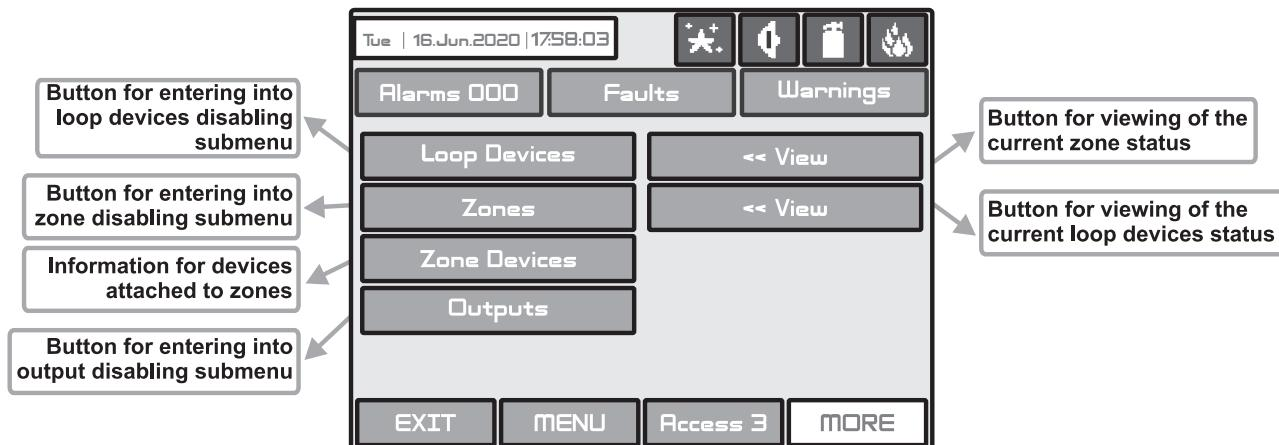
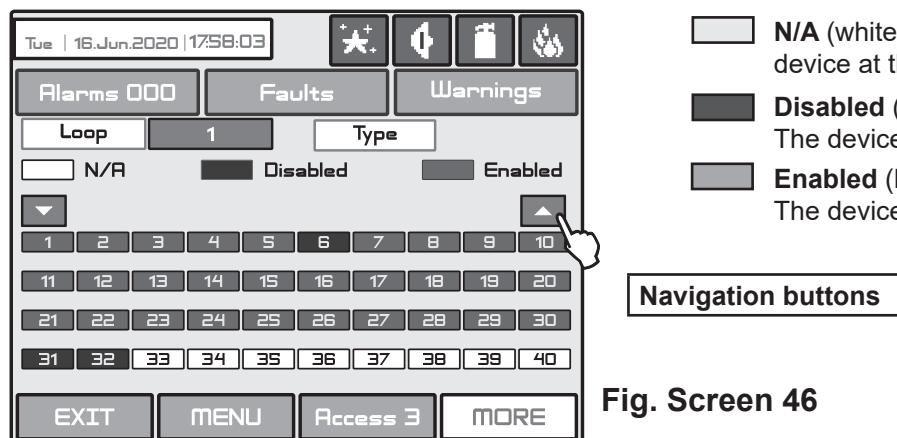
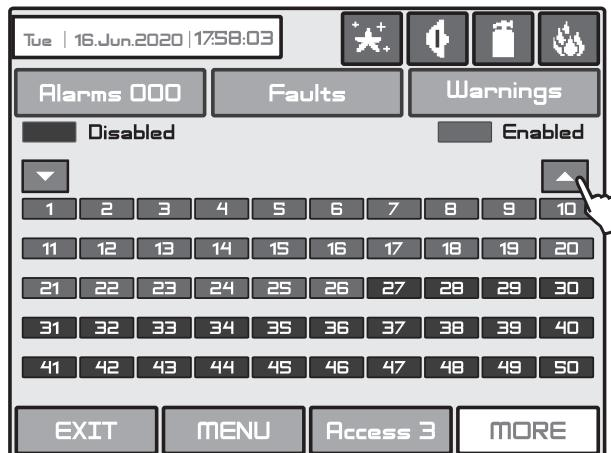
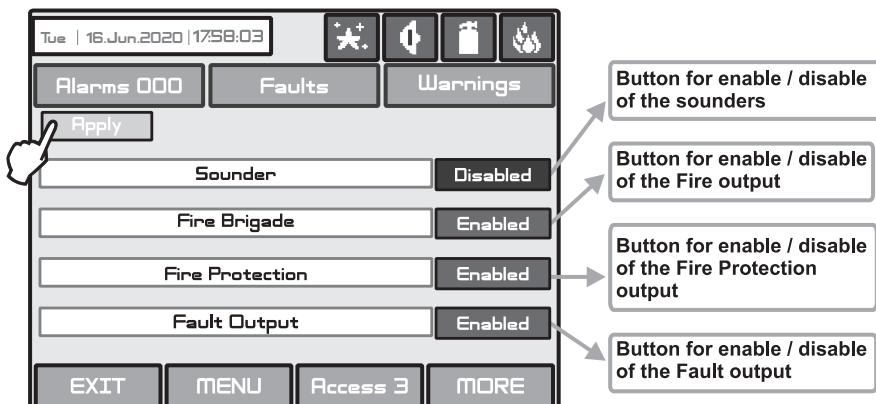

Fig. Screen 45.
Fig. Screen 46
Fig. Screen 47
Fig. Screen 49
The user/installer can enable or disable the loop devices, zones and the outputs of the fire panel. To introduce enabling or disabling a function you can directly choose the respective button and make corrections, or first by pressing “View” button to look at the current status of the system and after that, if it is necessary, to enter new data – Fig. Screen 45.
The user/installer could first look at the current status of the loop devices by choosing “View” button situated next to the “Loop devices” button - see Fig. Screen 45. The current status of the loop devices programmed earlier in the system are displayed on the screen (see part Programming, item 3.3.2 Loop Devices) - Fig. Screen 46.
The user/installer could first look at the current status of the zones by choosing “View” button situated next to the “Zones” button - see Fig. Screen 45. The current status of the zones in the system are displayed on the screen (see part Programming, item 3.4 Zones) - Fig. Screen 47. In the case of a disabled zone, the panel generates a message “Zone Disabled” and the “Disable” LED on the control panel is activated.
**Note:** From the disabling menu you can directly enter in the loop devices configuration menu (Fig. Screen 8) / zone configuration menu (Fig. Screen 14) as choose “Loop Devices” / “Zones” button (Fig. Screen 45).
From the menu for disabling introduction - Fig. Screen 45, the user/installer can also review the addresses of all devices attached to any zone in the system. Press the “Zone Devices” button. At the screen is presented information for loop and zone number with a list of available devices.
From the menu for disabling introduction - Fig. Screen 45, the user/installer can disable or enable the monitored outputs of the IRIS fire panel - **Sounder**, **Fire Brigade**, **Fire Protection** and **Fault Output** - Fig. Screen 49, and the relay outputs on the 4-relay module. Use the **APPLY** button to confirm your choice.